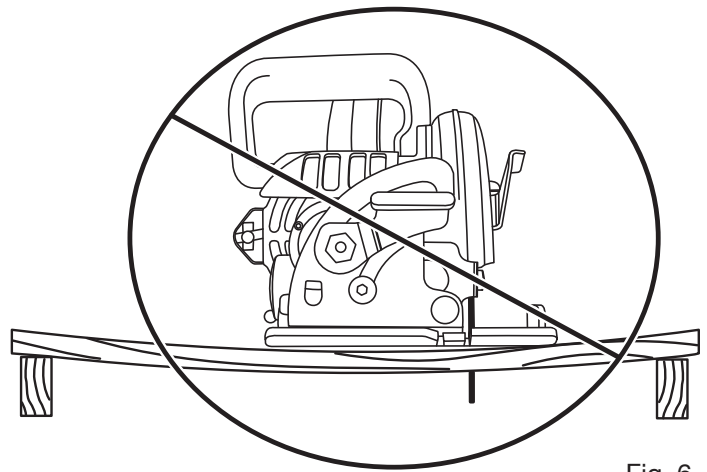

Fig. 6
- Supporting the workpiece incorrectly. See Figure 6.